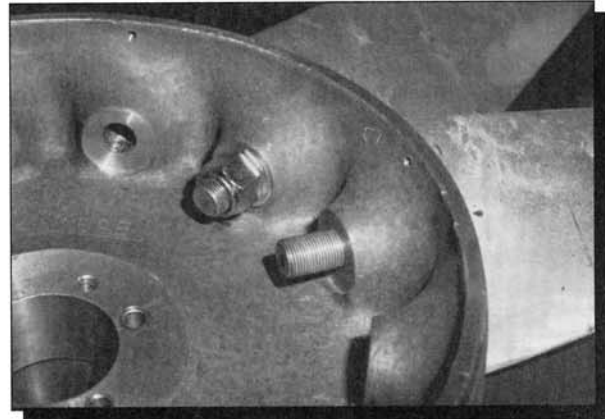

Fig. 9 Self-locking nuts secure blades to hub.
4. Loosen the self-locking nut (Fig.9) attaching the master blade until the blade can be rotated by hand.